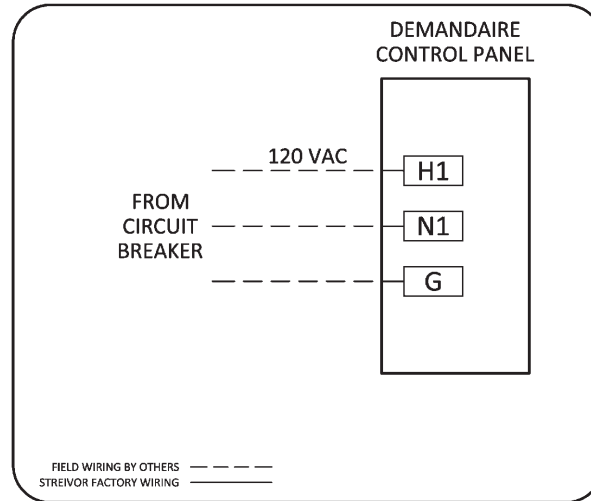

FIGURE 15: Electric Gas Valve Circuit Input Power Wiring
- Connect 120 VAC single phase power to the terminal blocks in the control panel labeled *H1*, *N1*, and *Ground* (Figure 15). Note: The electric gas valve circuit input power is separate from the control circuit input power.